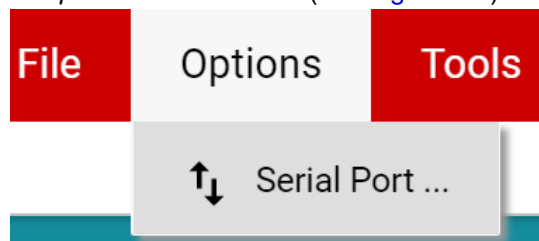

Figure 4-7. Change Serial Port
- a. If *Hardware Connected* does not show in the bottom-left hand corner of the GUI, check different hardware COM ports under *Options >> Serial Port* (see Figure 4-7).